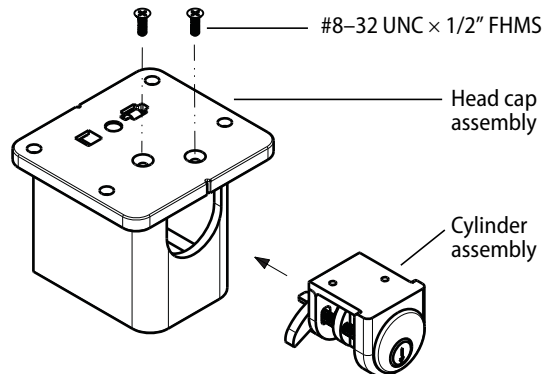

Figure 3 Installing the cylinder assembly into the head cap assembly
- 5 With the key removed, insert the cylinder assembly into the head cap assembly. See Figure 3.